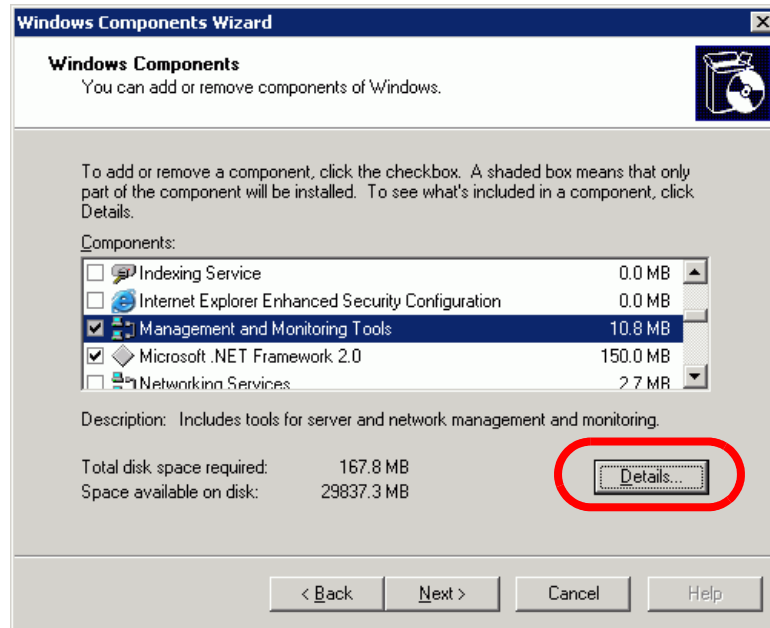

Figure 6-9 Windows Server 2003: adding or removing Windows components
1. Click **Start** → **Settings** → **Control Panel** → **Add or Remove Programs** → **Add/Remove Windows Components**. The window shown in Figure 6-9 opens.